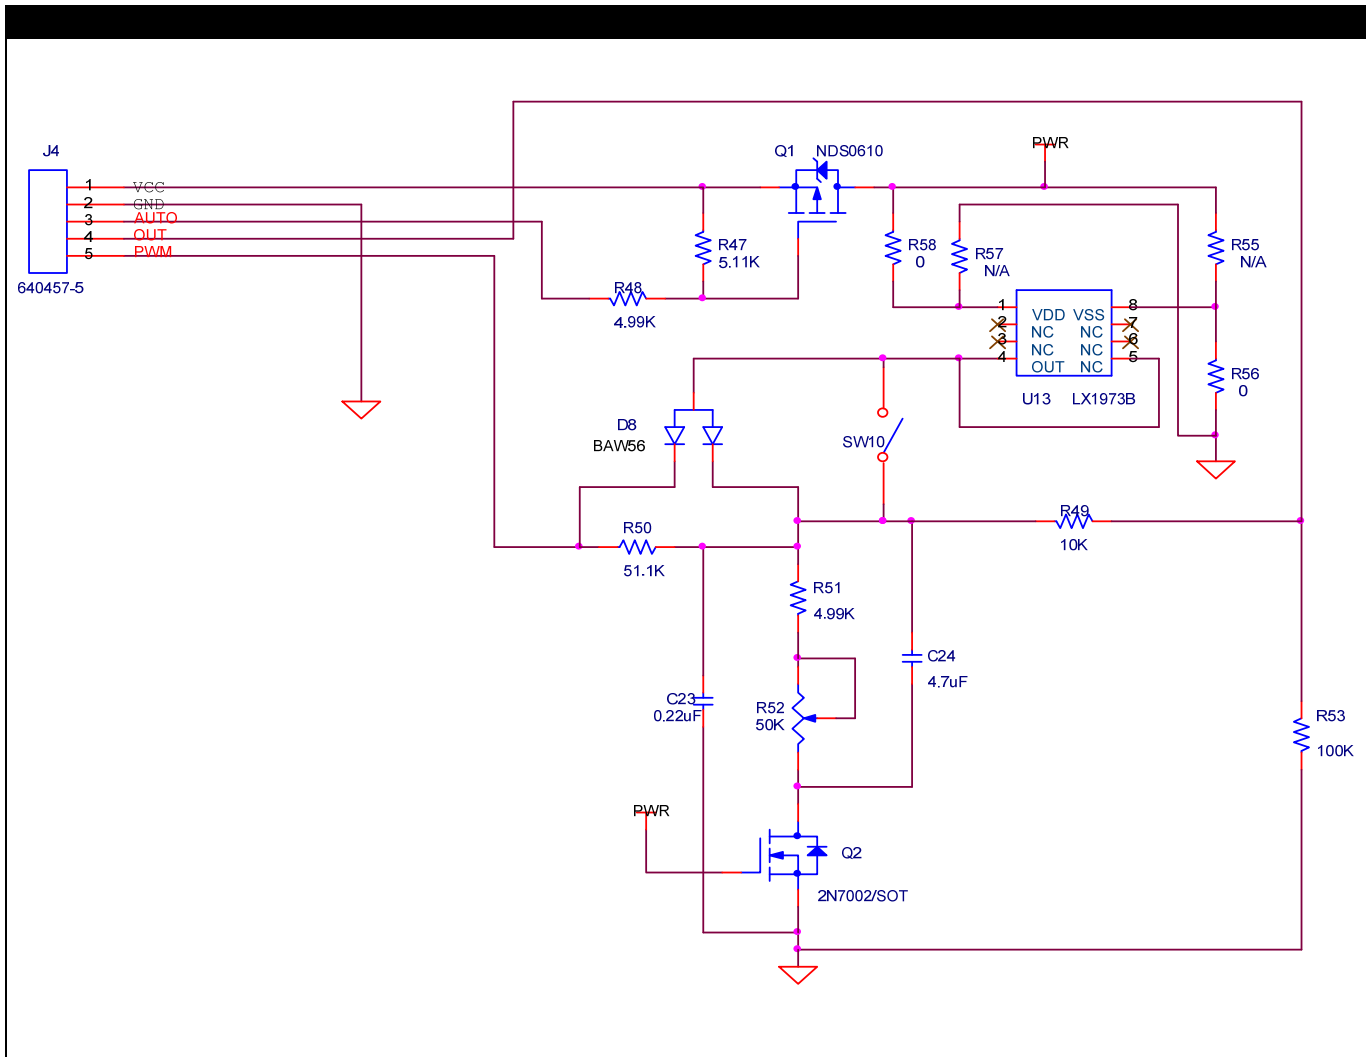

Figure 1: LX1973B Evaluation Board Schematic
**Schematic:** The LX1973B Eval board schematic is shown in Figure 1.